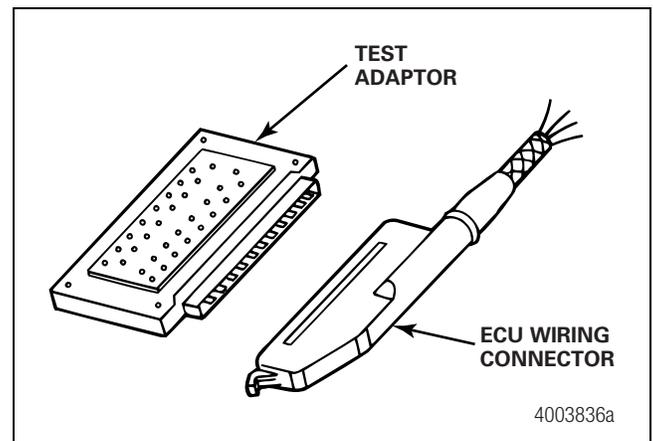

Figure 3.2
3. Insert the test adaptor into the 35-pin connector on the ECU harness. Figure 3.2.